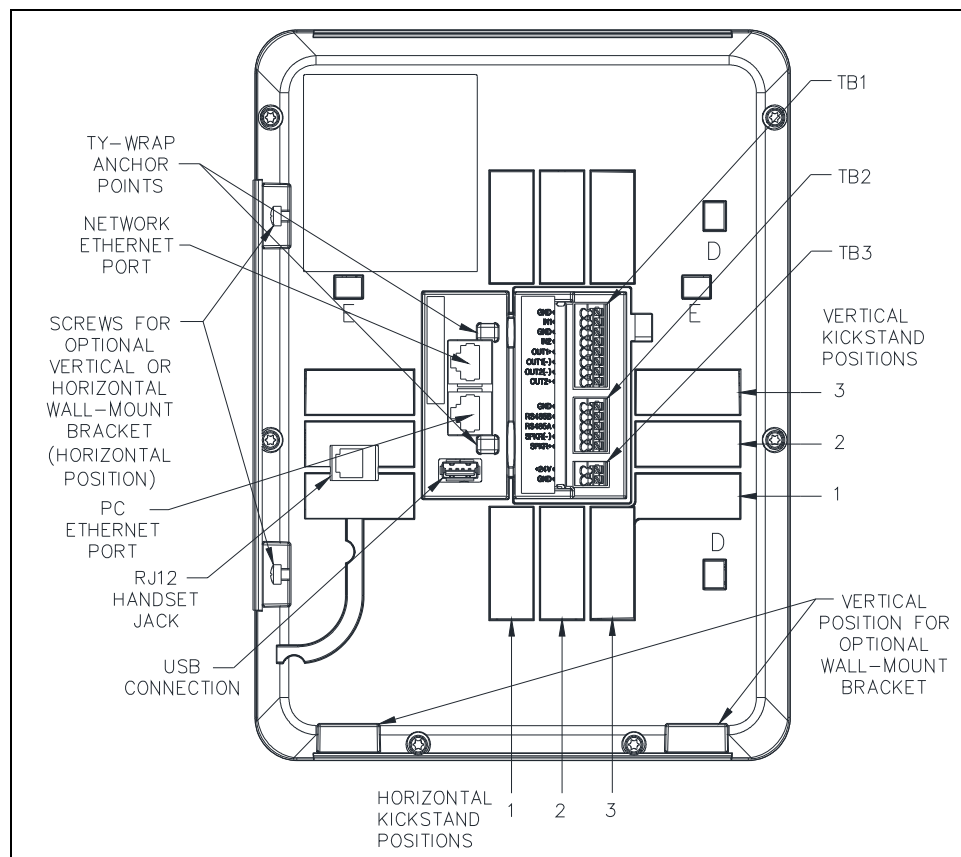

Figure 4. HUBBCOM Smart Controller—Rear View
The kickstand provides four positions in both orientations to suit the situation where it is used (see Table 1 and Figure 4).
2. Insert one side of the kickstand, with the flange properly oriented, into the desired position in the rear cutout (see Figure 4).
5. Remove the two #8 × ½-inch mounting bracket screws from the bottom of the rear panel and set aside (see Figure 4).
7. With the proper orientation for the unit's configuration, angle the unit to hook it onto the top flange brackets (D-D or E-E, see Figure 4), then rotate and slide it downward until it rests on the mounting bracket.
7. Remove the two #8 × ½-inch mounting bracket screws from the bottom of the rear panel and set aside (see Figure 4).
9. With the proper orientation for the unit's configuration, angle the unit to hook it onto the top flange brackets (D-D or E-E, see Figure 4), then rotate and slide it downward until it rests on the mounting bracket.
HUBBCOM smart controllers have dual Ethernet ports. Use the RJ45 jack furthest from the USB port to connect to the Ethernet network. The RJ45 jack closest to the USB port can be used to connect a PC (see Figure 4).
2. (Optional) Plug an Ethernet cable from a PC into the remaining RJ45 jack(see Figure 4).